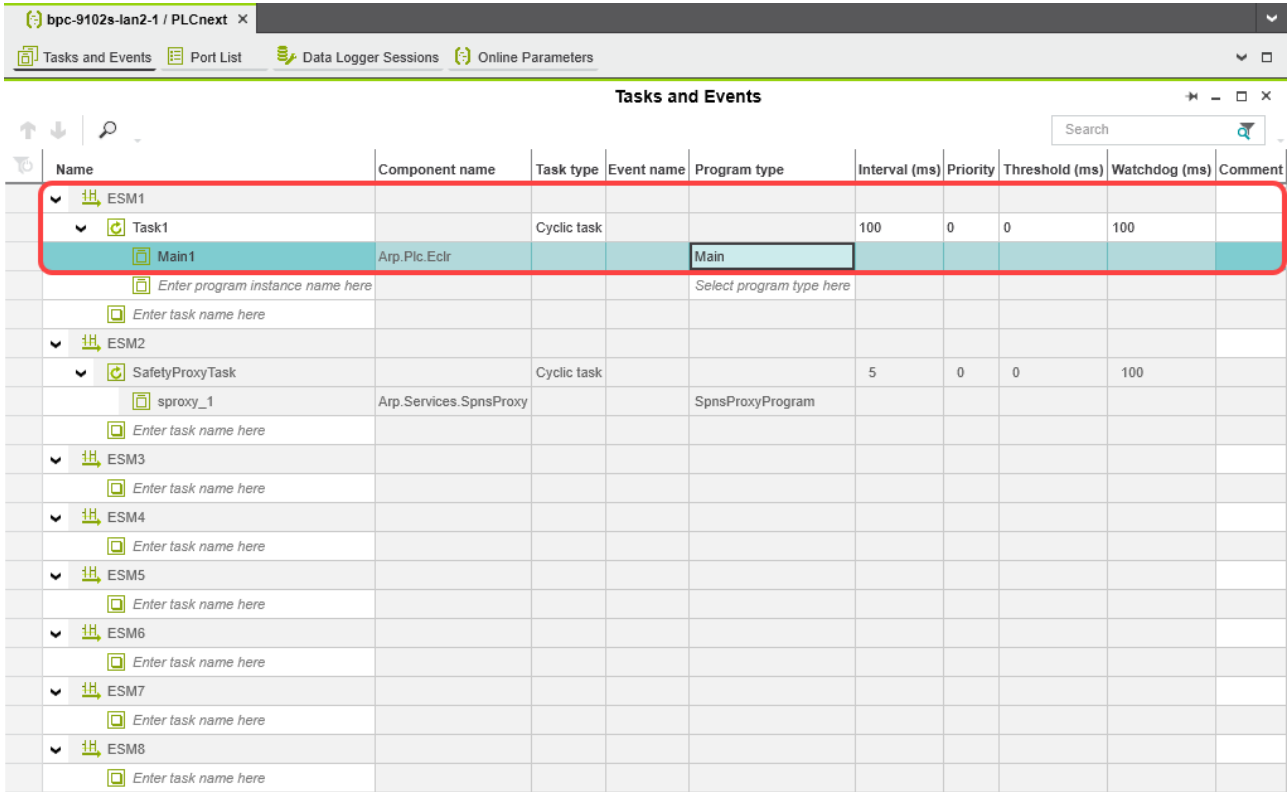

Figure 6-28 Tasks and program instances in the “Tasks and Events” editor
- In the “Name” column, enter a name for the new task in the “Enter task name here” input field (“Task1” in the example in Figure 6-28).
- In the “Name” column, enter a name for the program instance under a task in the “Enter program instance name here” input field (“Main1” in the example in Figure 6-28).
- Select the program to be instantiated from the drop-down list (“Main” in the example in Figure 6-28).